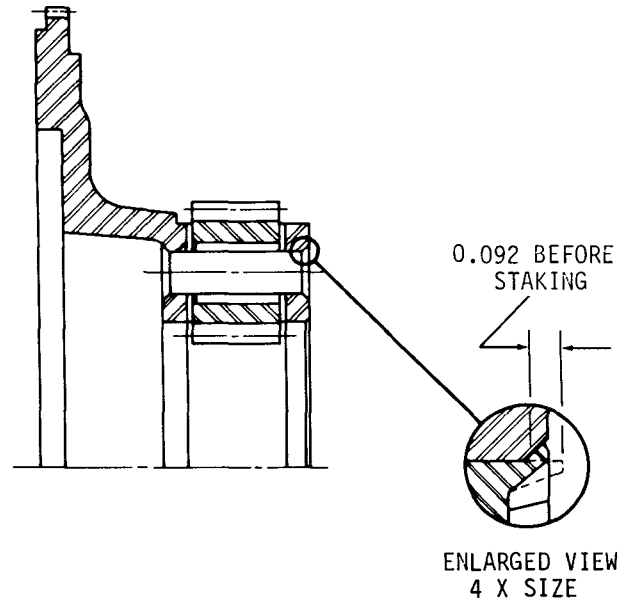

Fig. 6-28. High-range planetary carrier assembly—cross-sectional view
(6) Position the carrier assembly, splined hub downward, in a press. Install six spindles 20 to the 0.092-inch dimension shown in figure 6-28.